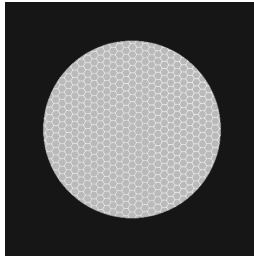

FIGURE 2.6. FIXED-PATTERN NOISE
(4) Fixed-Pattern Noise. This is usually a cosmetic blemish characterized by a faint hexagonal (honeycomb) pattern throughout the viewing area that most often occurs at high light levels or when viewing very bright lights (see Figure 2.6.). This pattern can be seen in every image intensifier if the light level is high enough. **This condition is acceptable as long as the pattern does not interfere with the operator's ability to view the image or to perform the mission.**